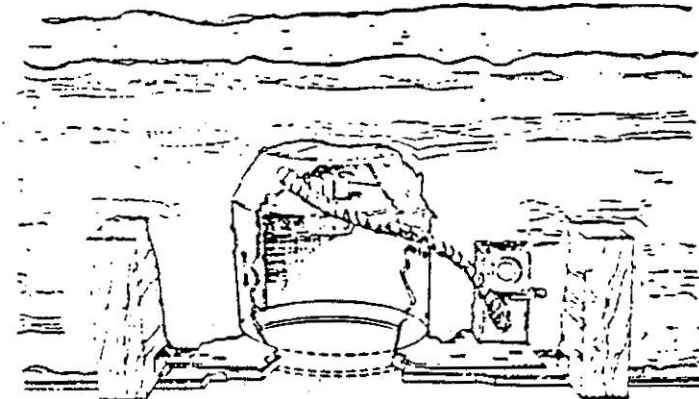

Figure 3: A listed recessed fixture suitable for use in insulated ceilings in direct contact with thermal insulations.
- This type of fixture can be used in direct contact with thermal insulation but must be listed or labeled as I.C. rating. (See Figure 3).